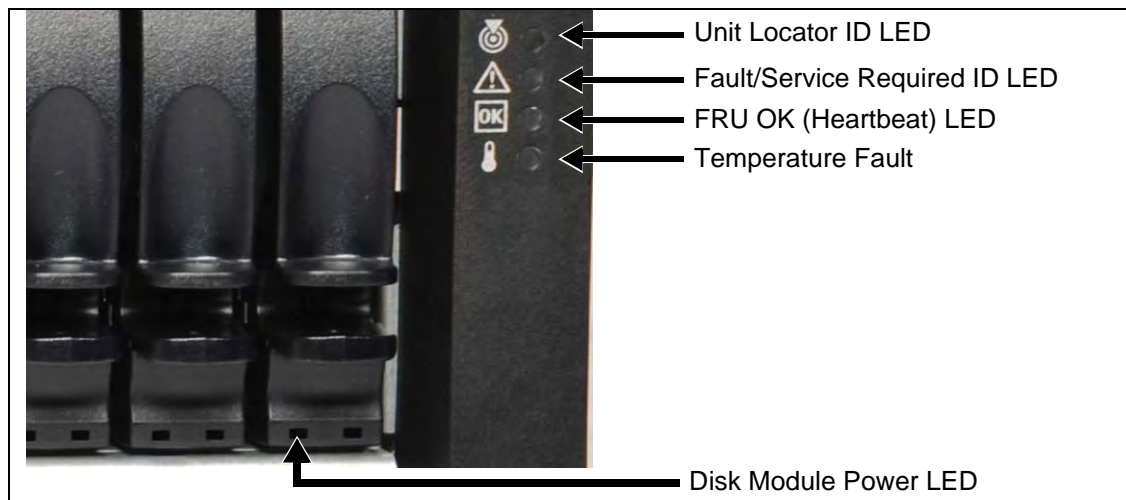

Figure 4.2 - Storage Enclosure LEDs (Front Right View)
- b. Verify the following storage enclosure LEDs (**Figure 4.2**):